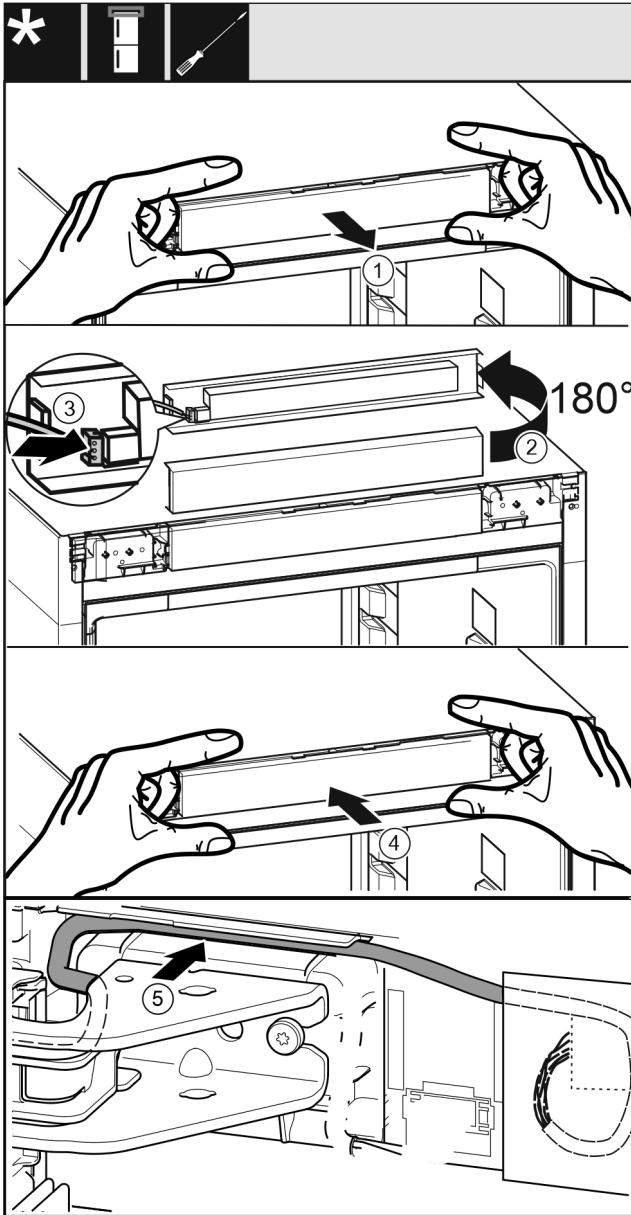

Fig. 44
- ▶ Carefully pull out the control plate Fig. 44 (1).
- ▶ Turn the control plate Fig. 44 (2) upward by 180°.
- ▶ Snap the plug Fig. 44 (3) into place on the control unit panel.
- ▶ Snap the control plate Fig. 44 (4) back onto the appliance.
- ▶ Carefully insert the cable Fig. 44 (5) into the guide above the top swap bearing block.